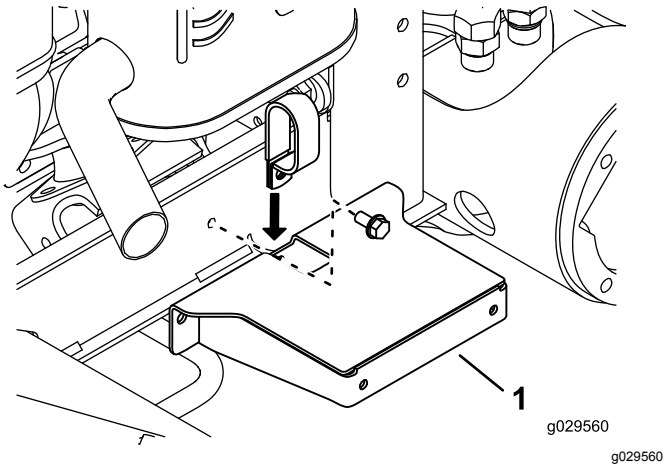

Figure 33
5. Insert the bottom of the hose clamp through the slot in the top of the fender mount (Figure 33).
11. Loosely mount the hose clamp and fender mount to the frame channel with the hose clamp, bolt, and nut (see Figure 33).